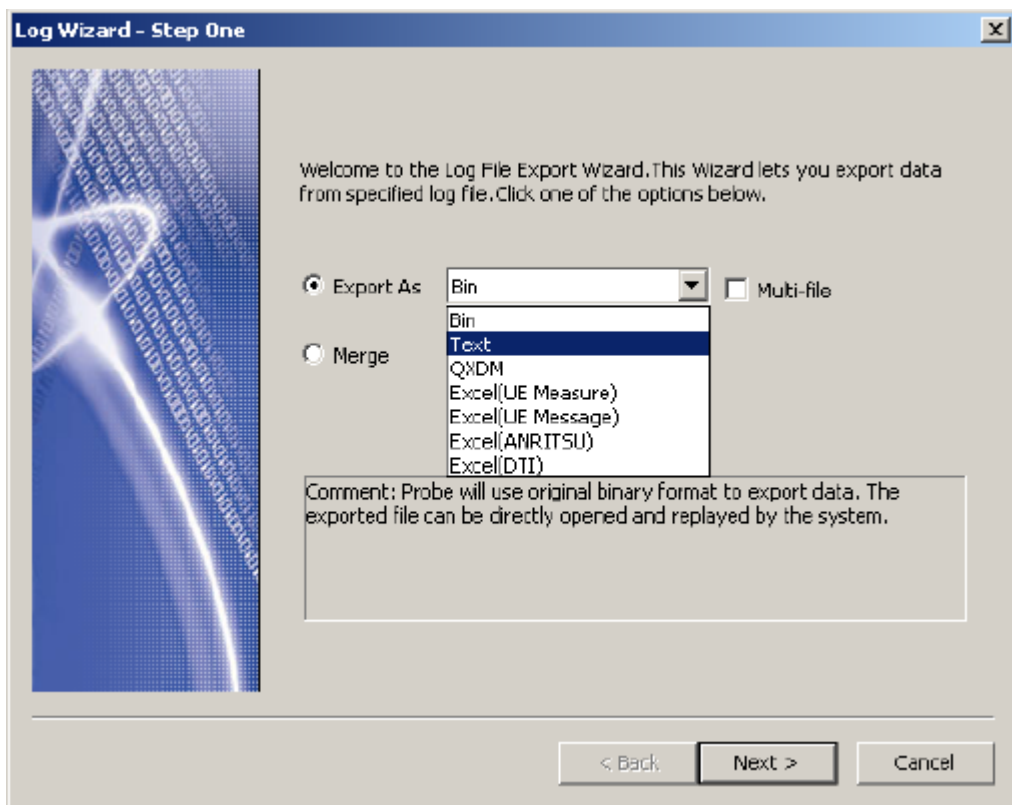

Figure 11-2 Export As drop-down list
- 2) Choose the data export mode in the **Export As** drop-down list, as shown in Figure 11-2.